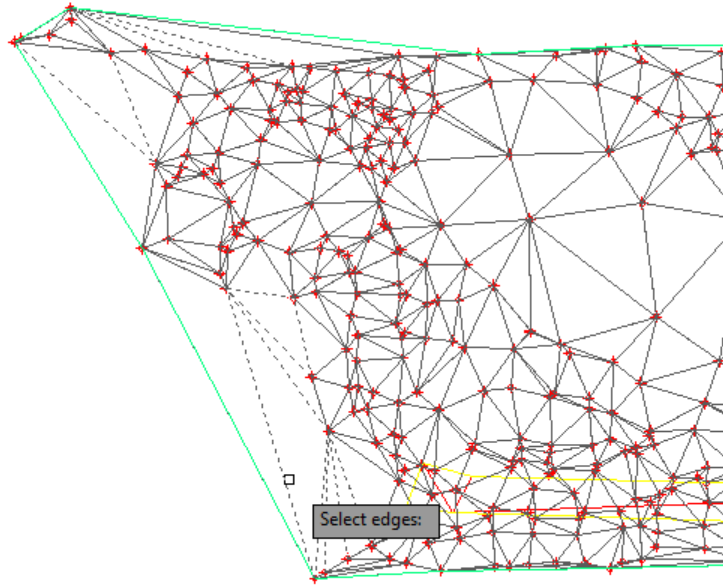

Figure 3-65 Selecting the longer edges of the triangles
5. Select all the longer edges on the left side of the surface and shorter edges on the top left corner, as shown in Figure 3-65.